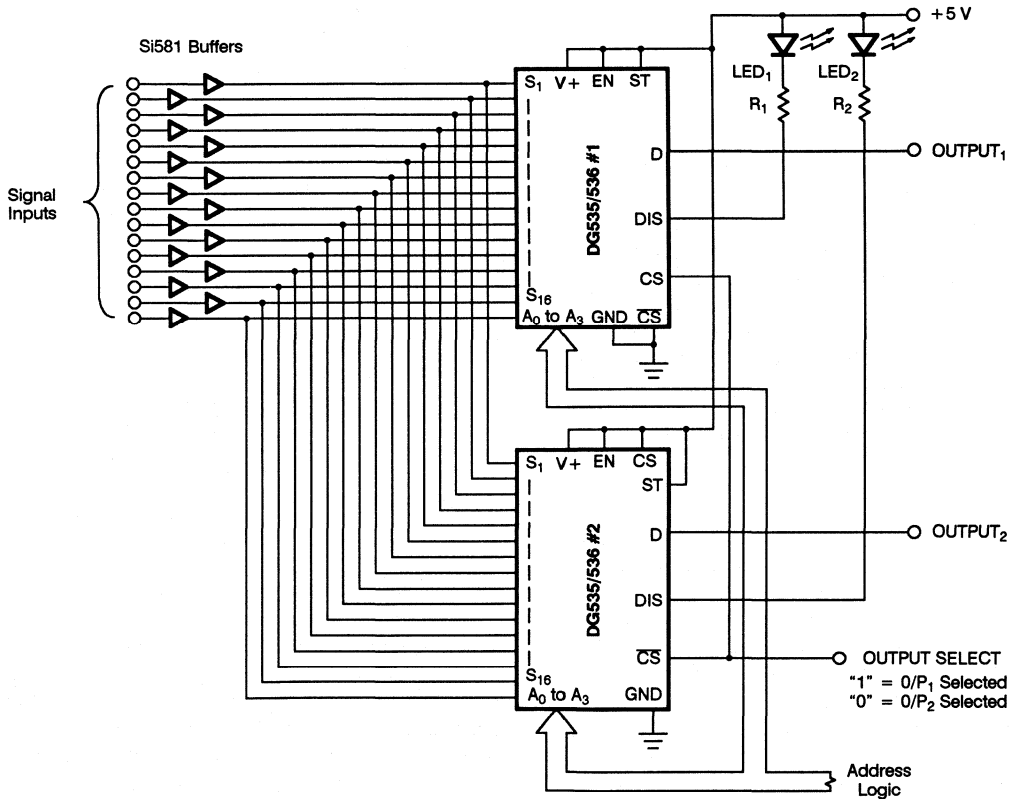
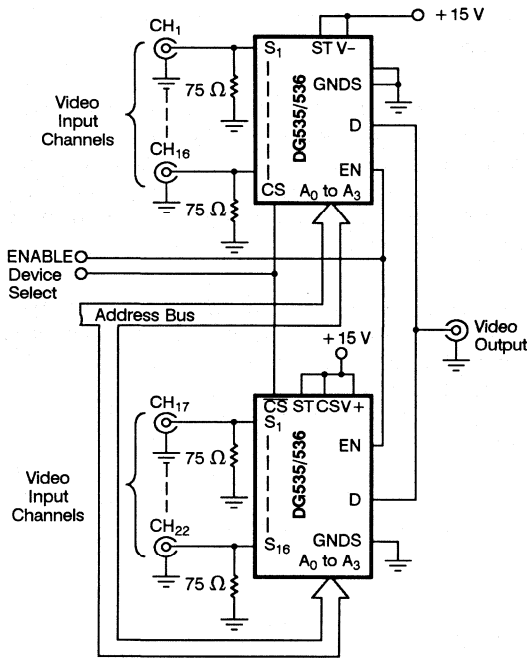
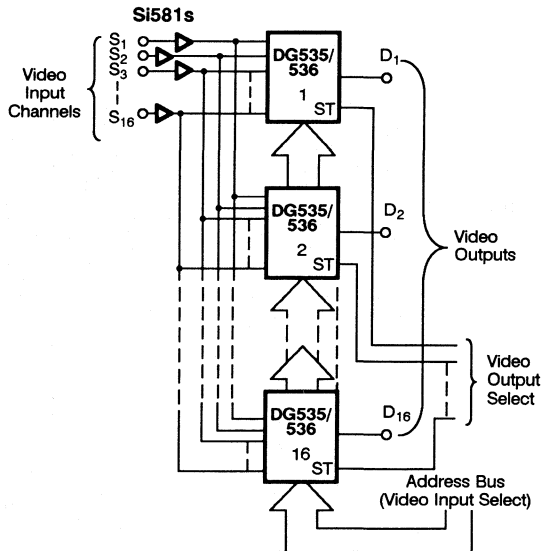

Figure 16. The DG535/536 as a 16 x 2 Matrix Switch
Figure 17. 32-Channel Multiplexer
Figure 18. 16 x 16 Video Crosspoint Circuit
Figure 16 illustrates how the DIS (disable) pin can be used to indicate which output is selected. When logic 1 is applied to output select, device 1 is enabled and device 2 is disabled. With device 1 enabled, the DIS pin is connected to signal ground, thus turning LED 1 on. With device 2 disabled (due to \overline{CS} being 1), its DIS pin represents a high impedance to ground and LED 2 is off.
The circuit in Figure 16 also illustrates how the chip select inputs can be used. As shown in Figure 17, a 32-channel single-ended multiplexer can be configured without external chip select circuits. This circuit makes use of the CS and \overline{CS} inputs which allow device selection from a single control line.
The basic circuit shown in Figure 16 can be extended and elaborated to give a 16 x 16 matrix for video crosspoint applications such as central routers used in video studios. This circuit, shown in Figure 18, allows source (or video input) to be connected to any video output (or any number of outputs). The strobe input (ST) on each device is used to latch the appropriate address into that particular device. By strobing the required address into each device sequentially, any crosspoint connection can be made.
The circuit shown in Figure 18 can be used as a digital cross-point to replace expensive, power consuming ECL crosspoint ICs. Besides handling raw digital data, the DG535/536 can also be used for other forms of data transmission, such as FSK and PCM systems.
RZ (returns to zero) PCM data consists of three discrete (ternary) levels to overcome long periods of zeroes (Figure 18). Digital signals can degrade beyond legibility after only a few hundred yards of travel down a transmission line. Therefore, the PCM signals must be regenerated at regular distances to avoid excessive distortion.